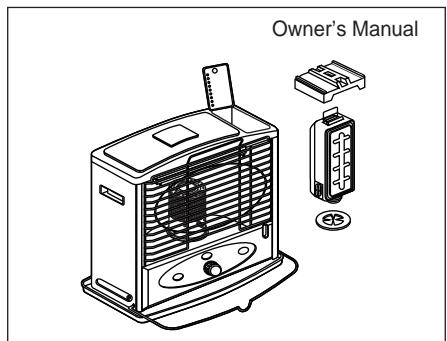

Fig. 2
④ UNPACKING AND ASSEMBLING THE HEATER
1. REMOVE THE HEATER AND ALL PACKING MATERIALS FROM THE BOX. (Fig. 2)